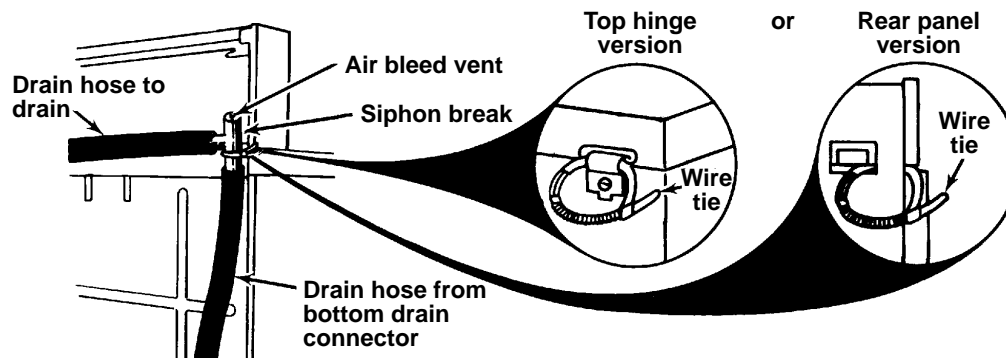

Figure 1
REFER TO FIGURES 1, 3, AND 4 TO IDENTIFY YOUR TYPE OF MACHINE.
2. Install siphon break, using wire tie to hold siphon break in place. See Figure 1.
- 2a. Install drain hose, using clamp supplied, to bottom port of siphon break. See Figure 1.
- 3b. Install plastic drain hose with sleeve installed, using clamp supplied, to bottom port of siphon break. See Figure 1.